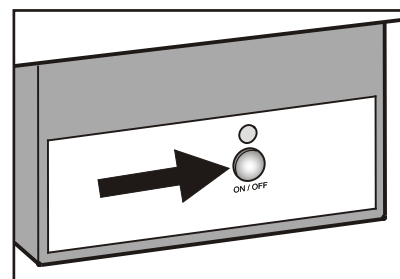

Figure 24
- Press the button on the Ice Maker housing (**Figure 24**) for approx. 3 seconds. The LED above the button starts blinking.
*The Ice Maker can also be turned on and off by pressing the "On/Off" button at the Ice Maker housing for approximately 1 second (**Figure 24**).*